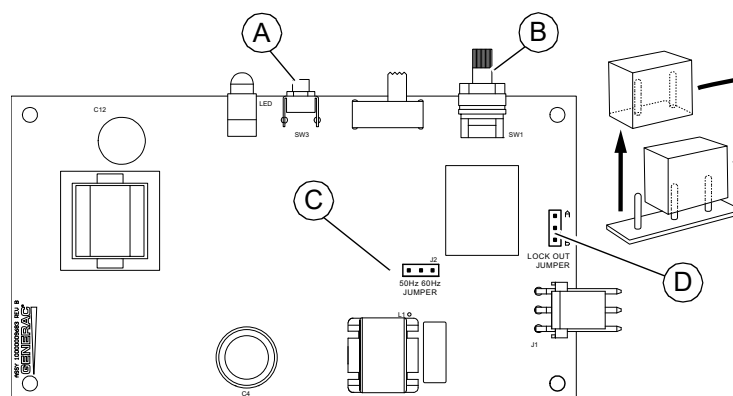

Figure 1-99. Jumper Locations (Version 2, Normally Closed Contactor)
1. See Figure 1-99. Slide the lockout switch (A) to LOCKOUT LOAD ON GENERATOR.
2. Move the mode selector jumper (B) on the control board as directed in Jumper Locations.
See Figure 1-99. Later SMM control boards (Version 2) are equipped with two movable jumpers. Jumper locations are indicated on the diagram: